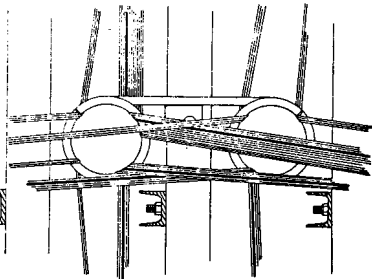
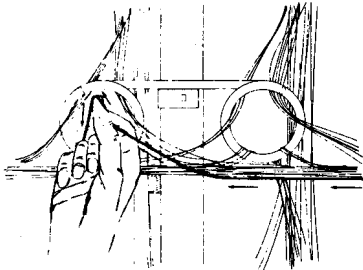

FIGURE 3. Line Drawing Designed to Illustrate How Jumpers, Ideally, Should Enter and Leave Rings.
FIGURE 4. Right Hand Receiving a Right-to-Left Jumper (HLIDF) and Placing It Into Ring at the Top Inside Edge.
- 5.04 Figure 3 is a line drawing of jumpers entering and leaving a ring and is being used *only* to illustrate the distribution of jumpers to different sections of the ring, depending on the direction of origin and termination. Figures 4, 5, and 6 illustrate the correct use of rings when running jumpers, i.e., with the wire slack and *resting lightly* against the rings.
- Run the jumper into a ring on the same horizontal level with the jumper wire entering near the top inside edge. See Figure 4.